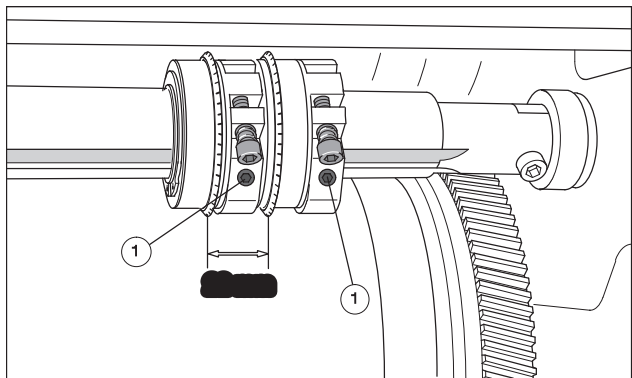

Fig. 8 Adjusting the perforating disc
The **minimum lateral gap of 22 mm** between two perforating saws on the print sheet is achieved by mounting two perforating discs next to one another. The perforating saws face one another (Fig. 8).
2. Slacken the fixing bolt (Fig. 8/1) on the perforating disc.
4. Fix the perforating disc into place by tightening the fixing bolt (Fig. 8/1) using the Allan key.